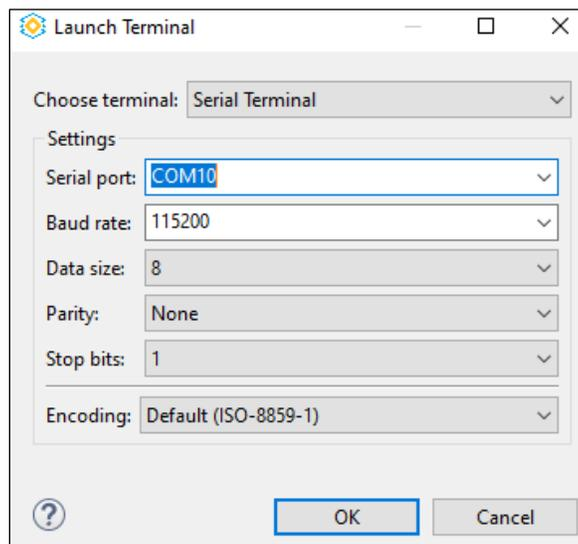

Figure 5.5. Launch Terminal Dialog
7. Choose the **Serial Terminal** and configure the **Serial port** with **Baud rate** 115200 (Figure 5.5).